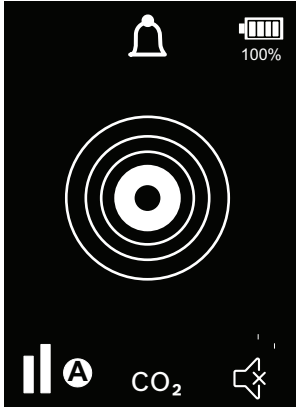

Fig. 11: Alarm indication with audio muted (shown in Automatic mode)
- ! With the alarm muted, a bell icon and the relative leak size indicator will appear when refrigerant (CO₂) is detected (see Fig. 11 and Fig. 12; item 12c).